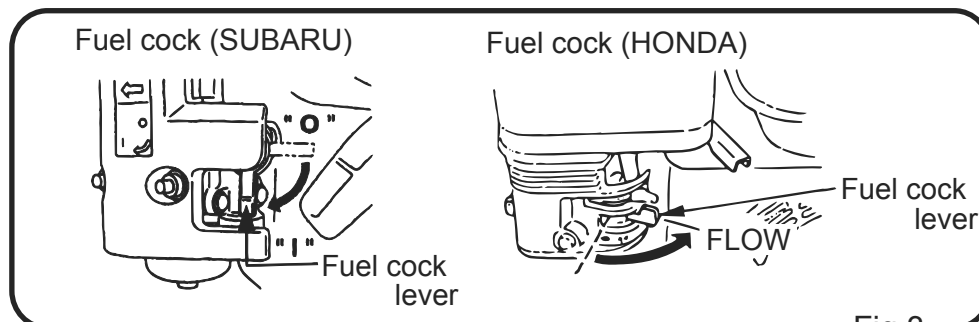

Fig.3
- 8-1-1 Turn the lever of the fuel cock downward and feed fuel. (Figs.3)